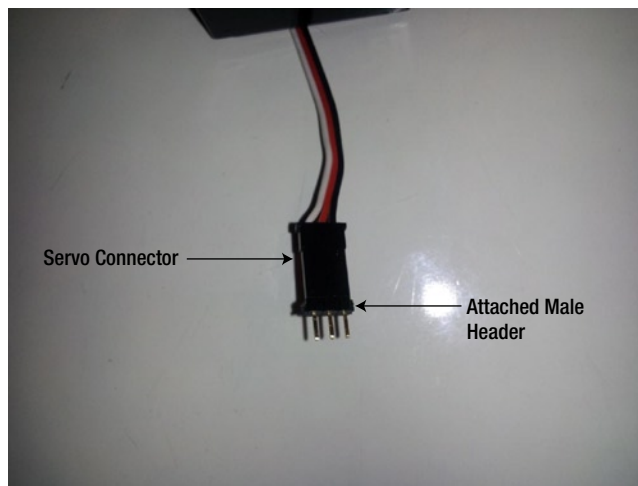

Figure 23-5. Attach the male stackable header to the servo connector
- Next, attach the 3-pin male stackable header to the servo. Simply push it on to the end of the wire connector coming out of the servo motor. Figure 23-5 illustrates this process.